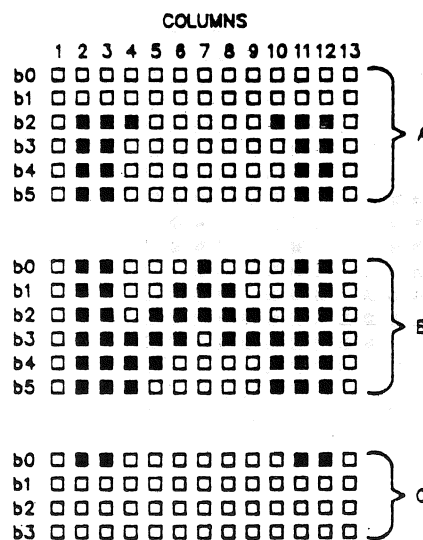

Figure 2-9 Typical RCS Character in RCS Cells
1. Design the character as it would appear in the RCS cell. Figure 2-9 shows a typical design for the letter 'W'.
2. Divide and annotate the cell as shown in Figure 2-9. This scheme provides the basis for naming individual pixels in the RCS cell.
For example, column 1 of segment A (Figure 2-9) is decoded as follows:
One more example, column 2 of segment A (Figure 2-9) is decoded as follows: